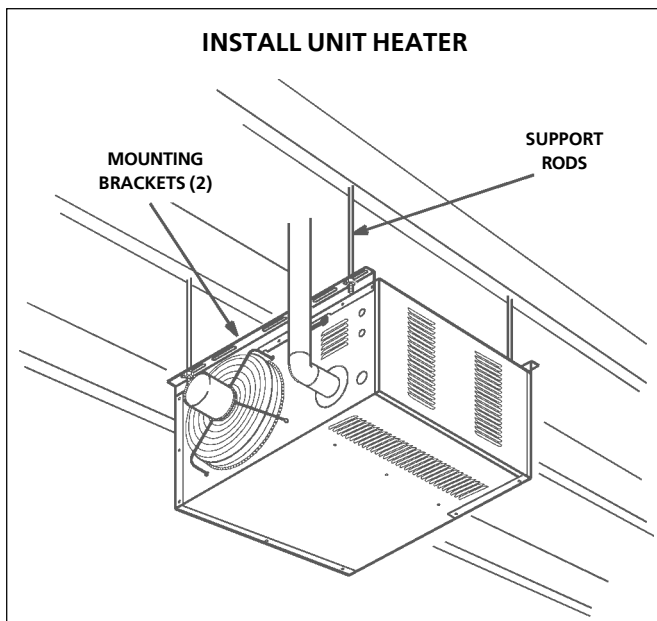

FIGURE 1
Unit is shipped ready for installation. Unit may be installed as shown in **figure 1** or inverted 180° depending on desired location as governed by clearances, vent connection, air direction, gas supply, electrical supply and service accessibility.
5. To support unit, secure mounting bracket to ceiling joist or truss. Unit may also hang on rods as shown in **figure 1**.